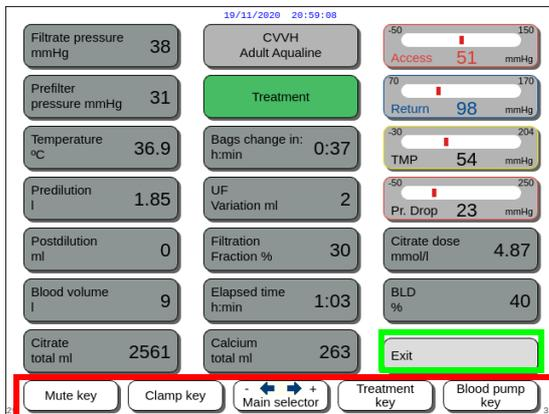

Fig. 171
- *Exit* key (green frame Fig. 171) to go back to main screen.
- All control buttons (red frame Fig. 171): *Mute* key, *Clamp* key, *Main selector*, *Treatment* key, *Blood pump* key.